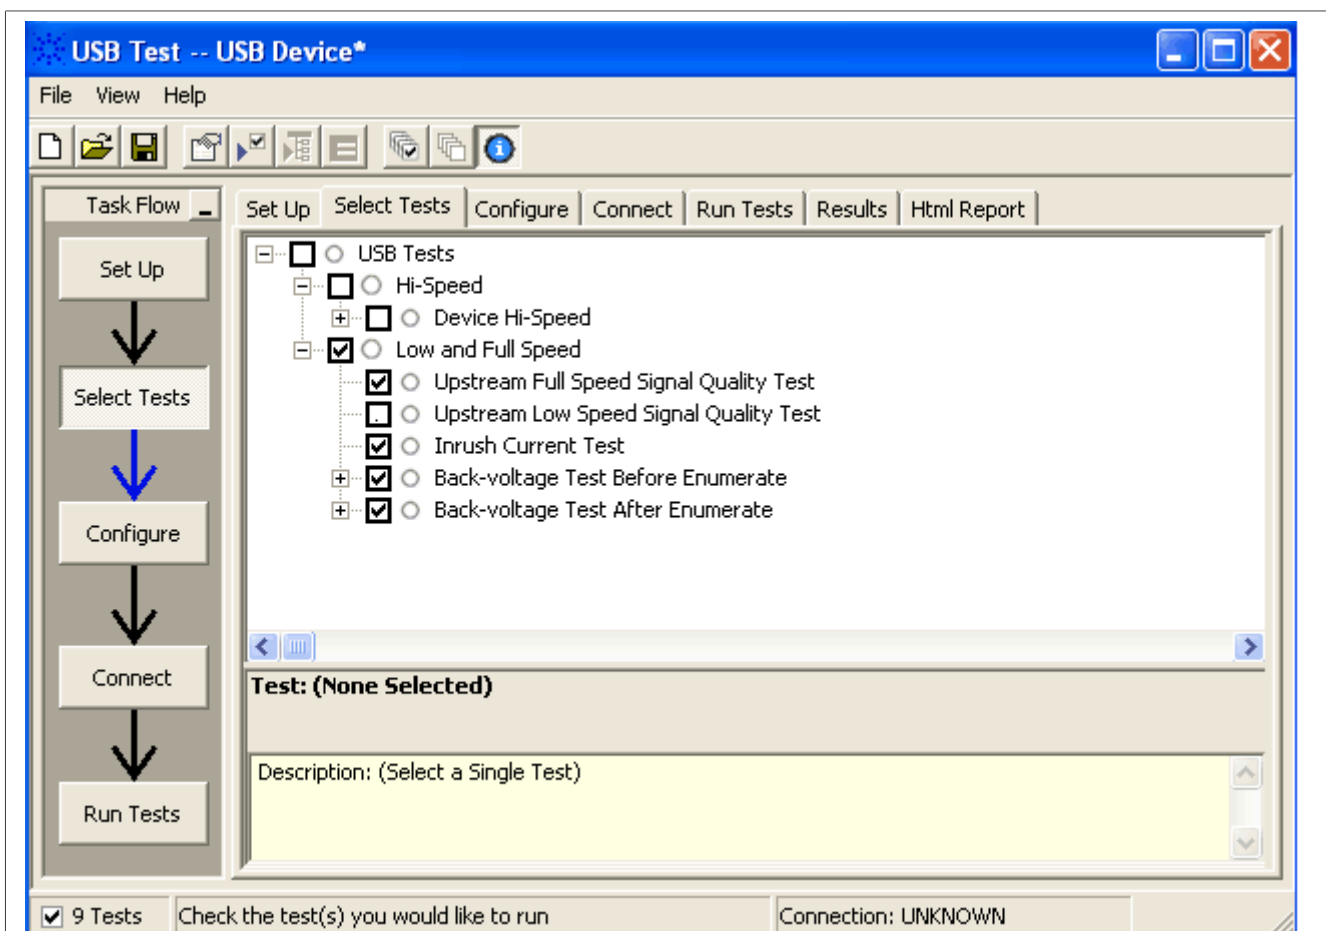
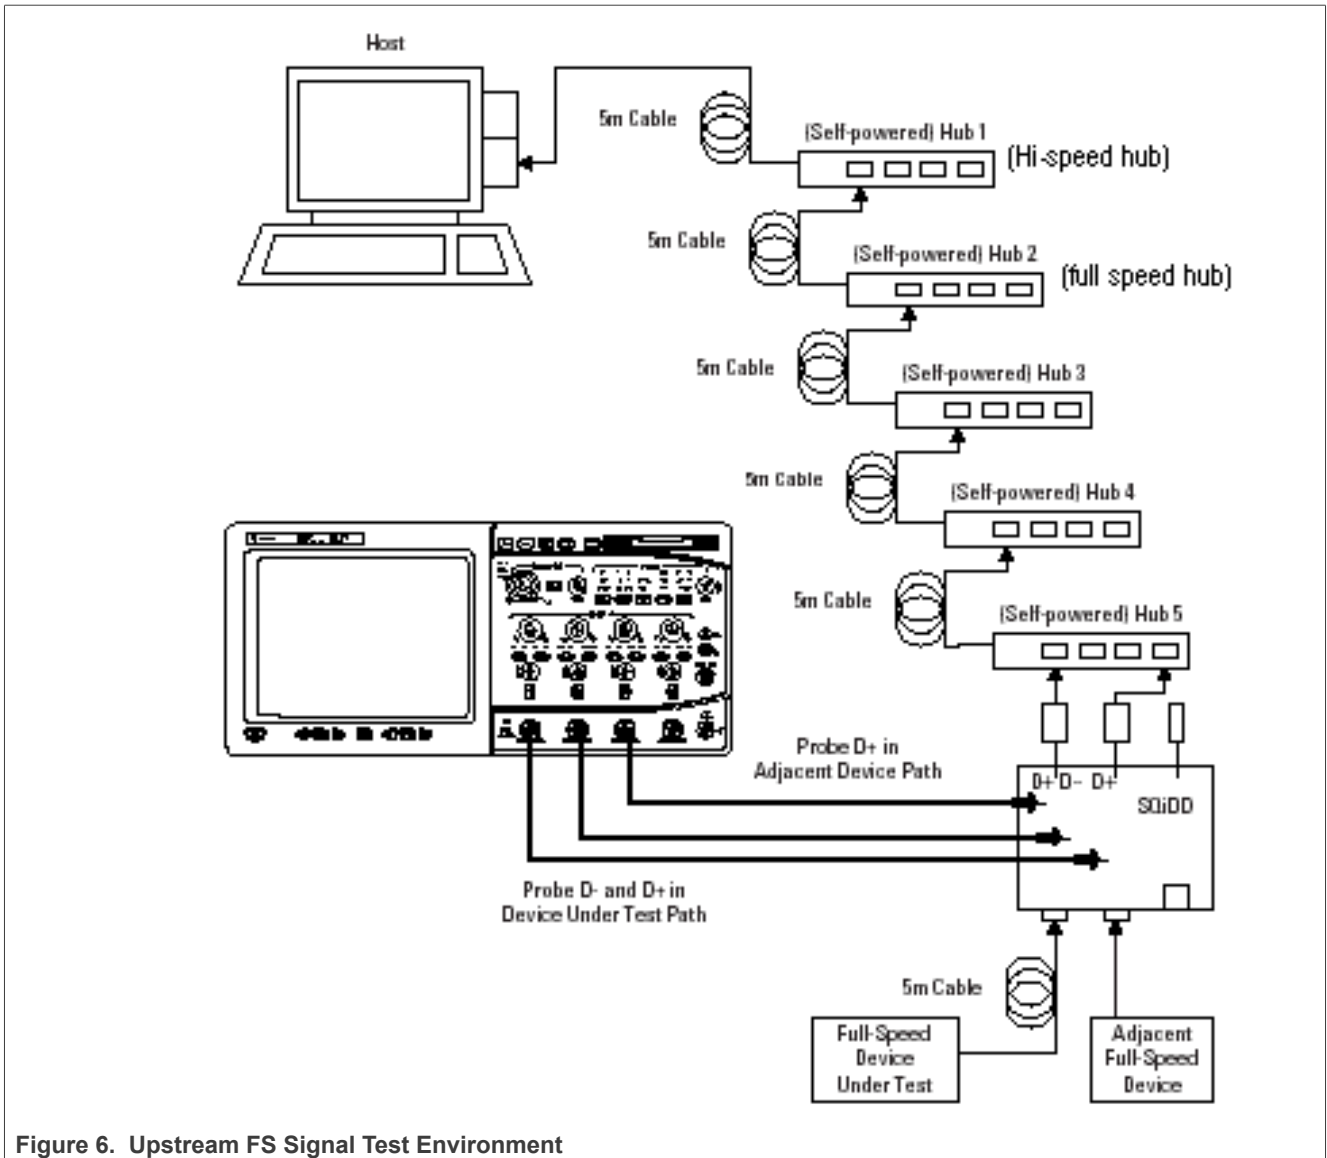

Figure 5. Automated Test Software setting for Upstream FS Signal Test
Figure 6. Upstream FS Signal Test Environment
1. Select the test items in the USB Automated Test Software on Oscilloscope as shown in Figure 5, and make sure you set the Test Type configuration option to “Full-Speed Far End” before running the test. Connect the equipment and test fixture as shown in Figure 6 below.